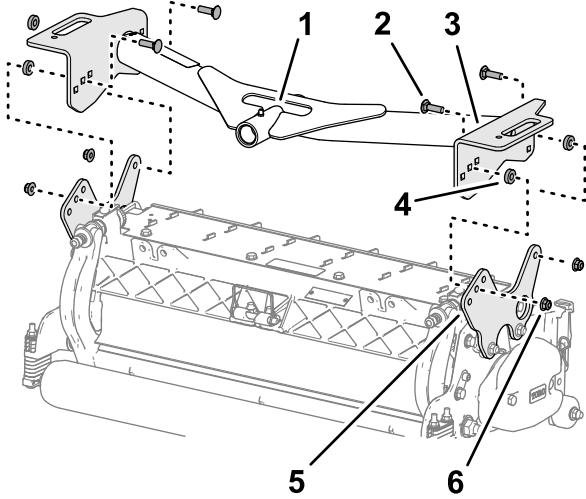

Figure 19
- Align the holes in the plates of the front-carrier frame with the holes in the cutting unit mounting plates (**Figure 19**).
- Align a spacer between the carrier plate and mounting plate (Figure 19), and loosely assemble the plates and spacer with a carriage bolt (3/8 x 1-1/4 inches) and flange locknut (3/8 inch).